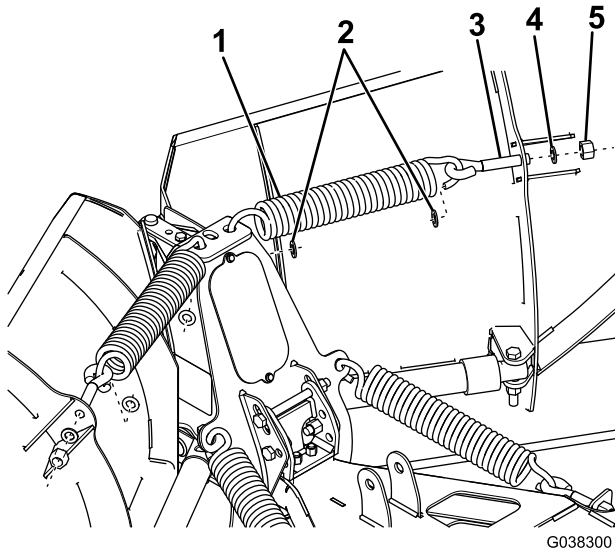

Figure 4
- Hook the 2 trip springs through the holes on the top of the push-frame assembly (Figure 4).
- Hook the other ends of the trip springs to 2 eyebolts (Figure 4).
- Insert the threaded end of the eyebolts through the holes on the plow blade and secure them using 2 washers (1/2 inch) and 2 self-locking nuts (Figure 4).
- Slide a push nut retainer onto each end of the trip springs (Figure 4).